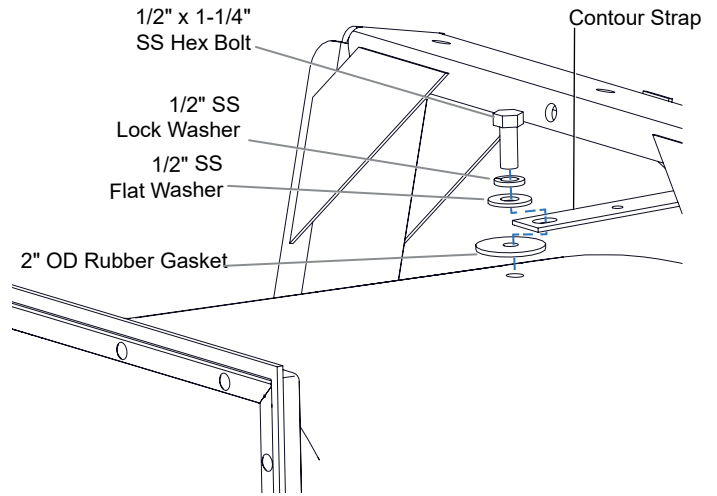

Figure 3b. Attach the contour strap to the enclosure
- Attach the free end of the contour strap to the enclosure as shown in Figure 3b. Make sure that the rubber washer is located between the contour strap and the enclosure.